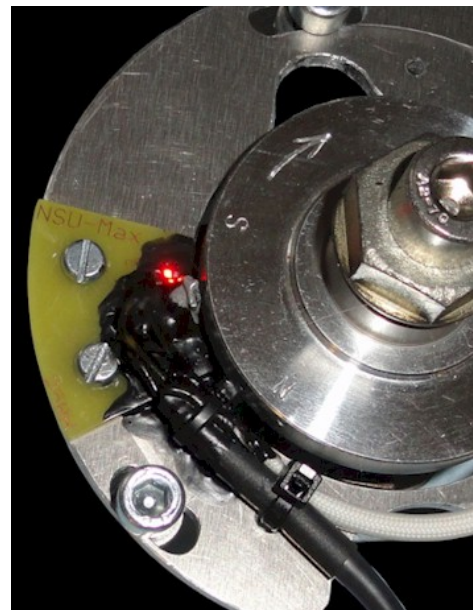

**Figure 2** Ensure correct alignment of magnet disk and sensor.
- Take care that the magnets in the disk are approximately in the same height as the sensor, see figure 2.